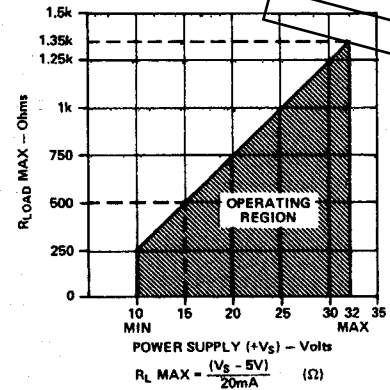

Figure 1. Maximum Load Resistance vs. Power Supply
- ² See Figure 1 for the maximum load resistance value over the power supply range.
Figure 1 shows the operating region of the 2B20. The load must be returned to power supply common. The voltage appearing between I_{OUT} (pin 5) and COM (pin 2) should not exceed V_{max} = +V_S - 5V. Exceeding this value (up to +32V dc) will not damage the unit, but it will result in a loss of linearity.